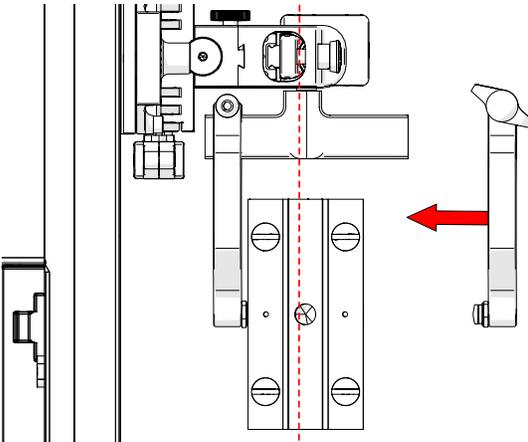

Fig. 110 - Align probe with yoke
6. Align the middle of the wedge with the centre of the yoke (Fig. 110).